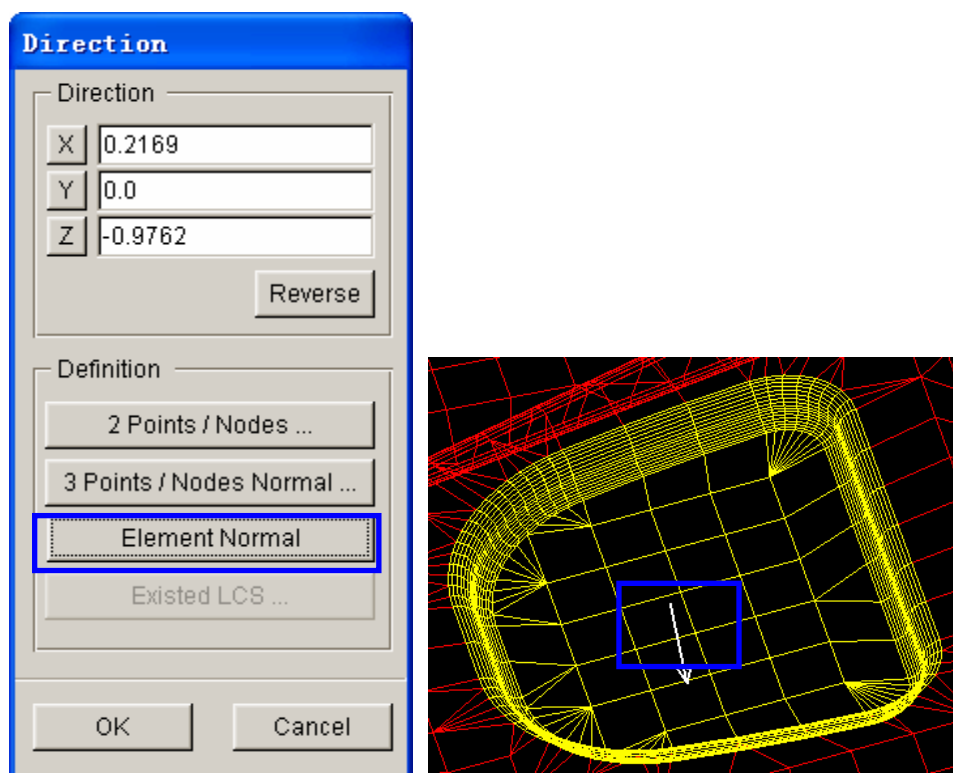

Figure 5.65 Display element normal
40. Click **Element Normal** button. Then, use your mouse cursor to pick an element on the flat region of **pun2**, as illustrated in Figure 5.65. An arrow indicating the working director is displayed.